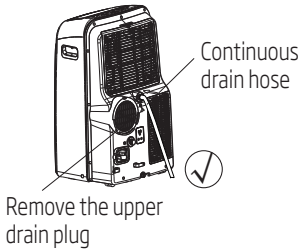

Fig. 20a
- During dehumidifying modes, remove the upper drain plug from the back of the unit, install the drain connector (5/8 universal female mender) with 3/4 hose (locally purchased). For the models without drain connector, just attach the drain hose to the hole. Place the open end of the hose directly over the drain area in your basement floor. Please refer to Fig. 20a.
Note: Make sure the hose is secure so there are no leaks. Direct the hose toward the drain, making sure that there are no kinks that will stop the water flowing. Place the end of the hose into the drain and make sure the end of the hose is down to let the water flow smoothly. (See Fig. 20a, 20b, 21a). Do never let it up. (See Fig. 21b).